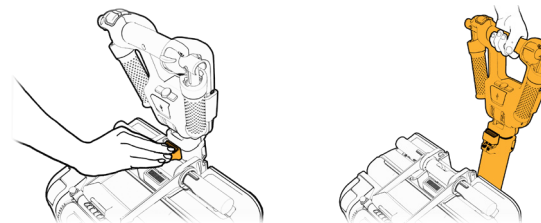

Figure 46
2. Press the rod button (1) and tilt it away from the main ATTO body (2) (see Figure 46).